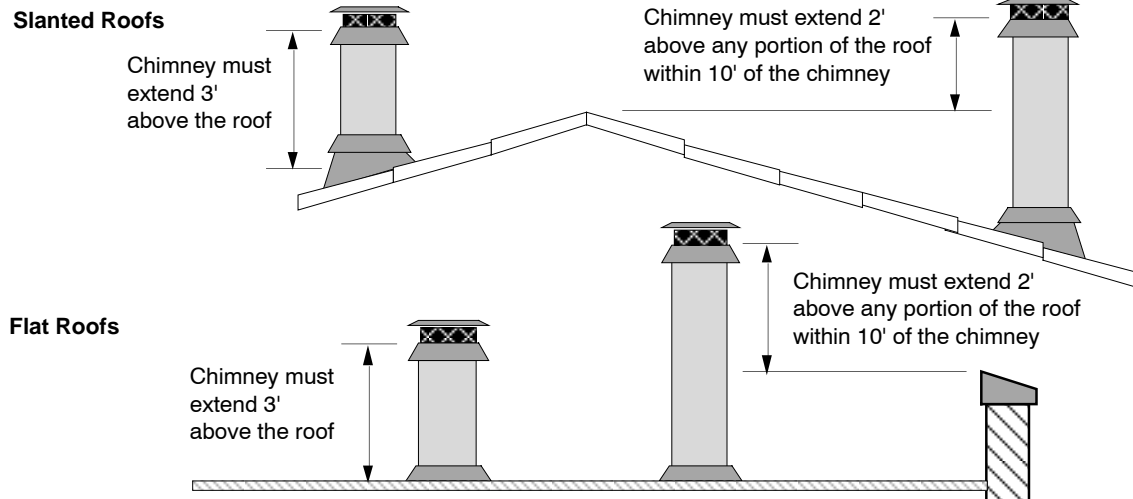

Figure 5
- Must terminate at least 3' above the roof **and** at least 2' above any portion of the roof within 10' (see Figure 5)